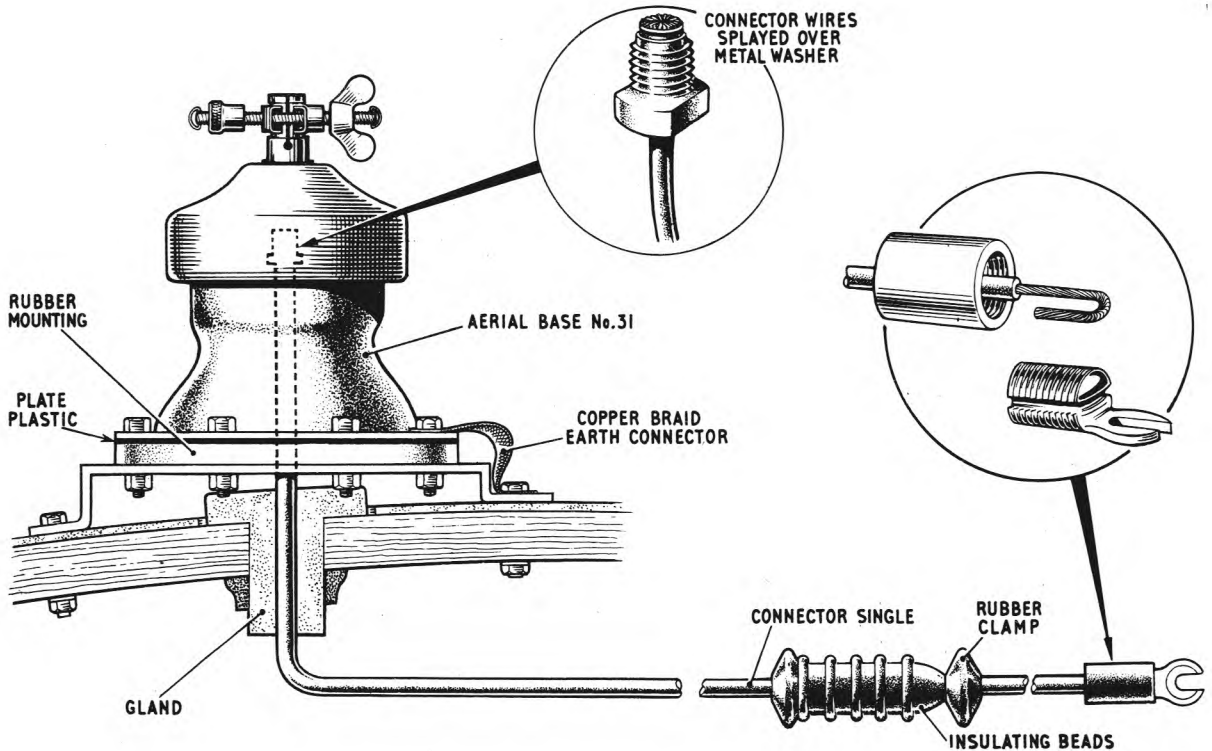

FIG. 68 HF AERIAL BASE AND LEAD FITTED ON MK. 2 BODY
The aerial connector passes down through the roof and a gland is fitted there to prevent it coming into contact with the metal. See fig. 68. In Mk. 1 trucks the sealing plate cannot be fitted with the gland in place. Consequently in these trucks the mounting may be sealed in a different way or the gland may be left for the user to fit.
(5) Fitting Aerial base No. 31 on the roof of the truck
- (a) Place the  $15/16$ -in. rubber mounting (Mounting aerial base No. 3) on the aerial mounting as in fig. 68. Then place the plate plastic on the rubber mounting.
- (b) Thread the free end of the cable through the centre of the plate plastic and down through the gland to the inside of the truck. Do not leave any slack cable inside the aerial base. Line up the six bolt holes in the aerial base, plate plastic, rubber mounting and aerial bracket. Position the copper braid earth connector from the roof ready to secure under one of the screws as shown in fig. 68.
NOTE - Fig. 68 shows the aerial mounting on the Mk. 2 truck. This consists of a hollow square metal box with six nuts welded inside. In the Mk. 1 truck the mounting consists of a solid round block and the assembly is secured by means of  $\frac{1}{4}$ -in. BSF screws  $1\frac{1}{4}$ -in. long inserted into blind holes in the Mounting block.
At the end of the cable, strip the insulation back for  $1\frac{1}{2}$ -in. and twist the wire strands firmly together. Remove the bush from the body of the lug. Slip the bush onto the cable and bend the wire round to fit the groove in the side of the lug. Screw the bush firmly onto the lug to grip the wire. See fig. 68.